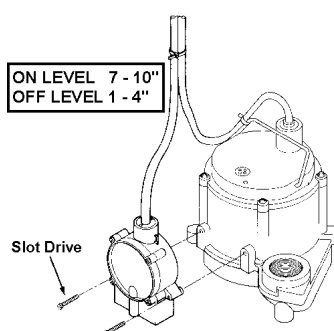

Figure 2.
2. For installation on Little Giant® Model 6-CIM-R, 6000M-R, 6-CBM-R, or 6000BM-R pump, refer to Figure 2. Attach the RS-5 directly to the Model 6 Series pump housing using the two slot drive screws provided, as shown in Figure 2. Use the cable ties provided to secure the power cords together. To ensure proper operation of pump and switch, place pump on a solid surface in water at least 1" deep.